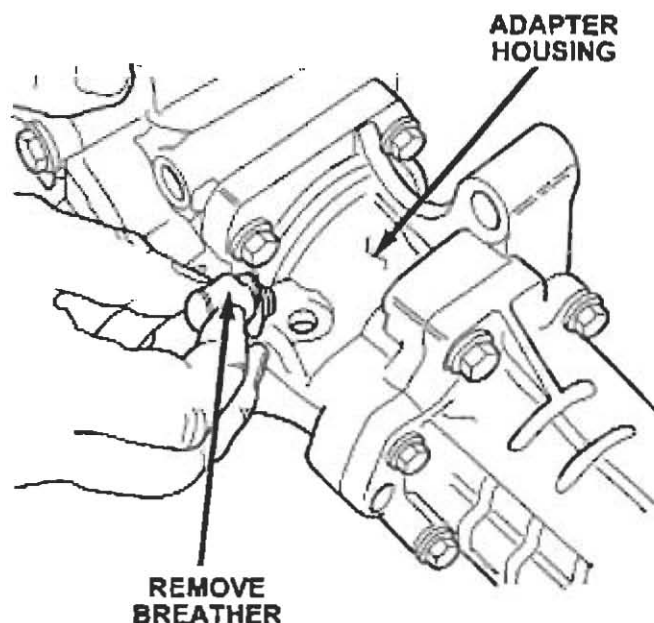

Figure 4
- Remove the transfer case breather (Figure 4). Clean the breather and set it aside for later re-use.